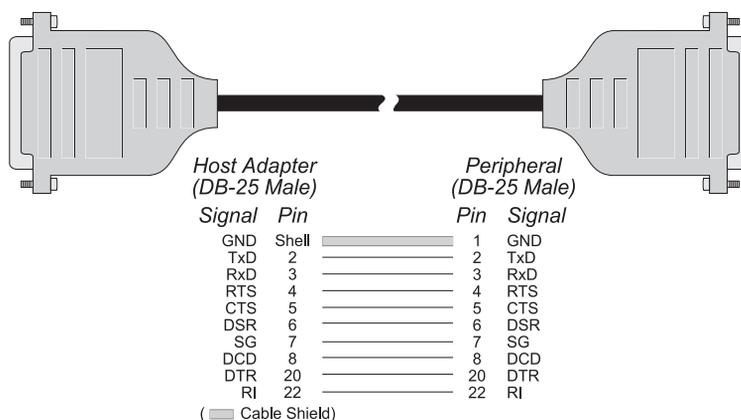

FIGURE 4-1 Modem Cable
- FIGURE 4-1 Modem Cable 9
To connect the SunSAI/P board to a modem, use a standard “straight-through” cable (FIGURE 4-1) to connect the modem to one of the DB-25 connectors on the connector box.